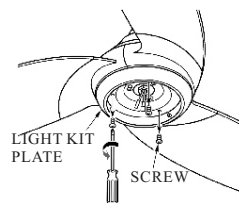

FIG.14
3. Remove 3 screws on light kit plate. (see Fig.14)